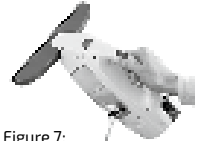

Figure 7:
- To do this, power off the device, open the side closure on the dirty water tank and pour the water into a container or drain (see figure 7). Then close the tank again.